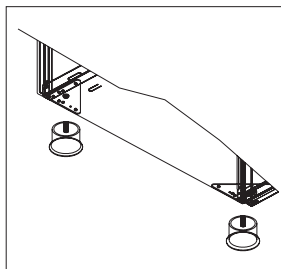
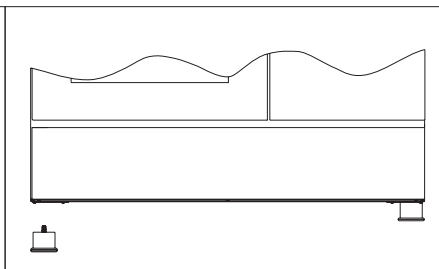

Figure 1
Figure 2
1.Foot attachment lath is installed on the oven from the bottom of the oven as shown in (Figure 1).Nuts are centered on these lathes in order to screw feet. Complete the feet installation process by screwing the feet to the nuts (Figure 2).